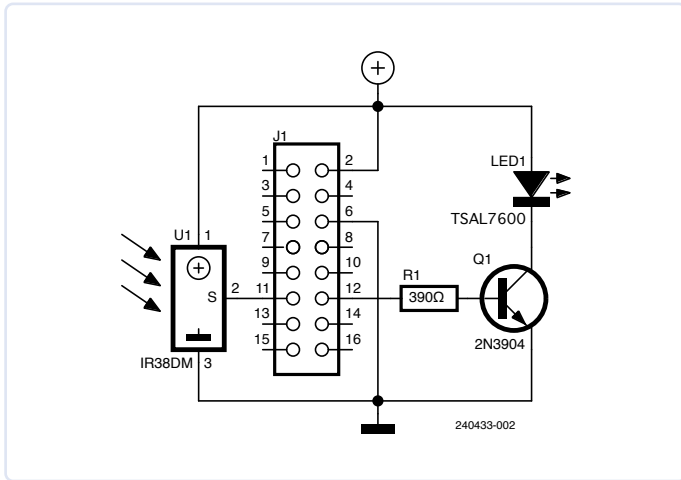
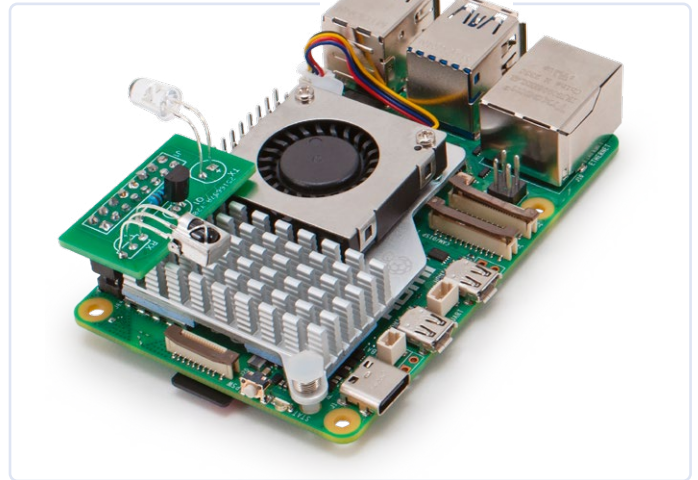

Figure 3: Schematic of the simple, plug-in IR Rx-Tx interface.
Figure 4: The small IR interface board, mounted on Raspberry Pi 5.
For learning and sending the infrared (IR) signals, we will make a simple interface — whose schematic is shown in **Figure 3** — with a tiny PCB housing, an IR receiver and an IR transmitter LED. With a convenient plug, it will directly plug into the Raspberry Pi GPIO header, as illustrated in **Figure 4**.